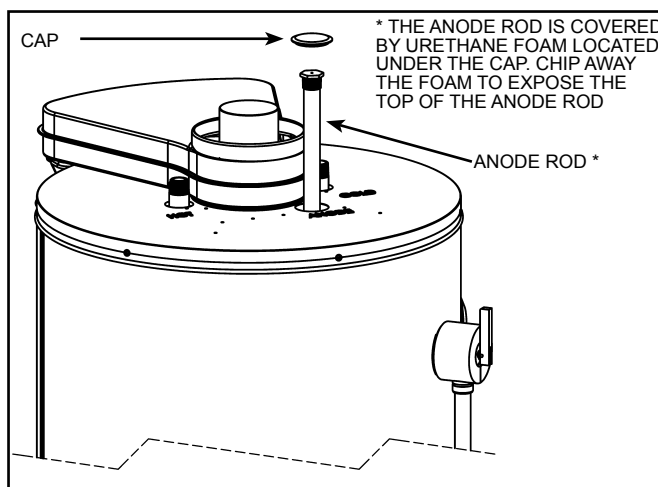
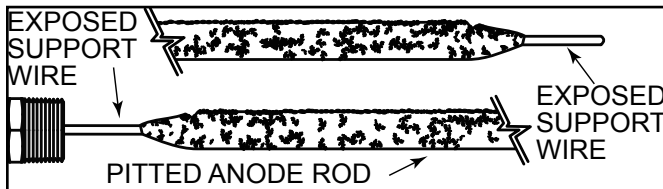

Figure 42
Figure 43
Artificially softened water is exceedingly corrosive because the process substitutes sodium ions for magnesium and calcium ions. The use of a water softener may decrease the life of the water heater tank. The anode rod (see Figure 42) should be inspected after a maximum of three years and annually thereafter until the condition of the anode rod dictates its replacement (see Figure 43).
5. Remove and retain the anode cap on top of the heater and remove and retain just enough insulation so you can access to the anode head (see Figure 42). Keep in a safe place for reinstallation later.
6. Remove the anode rod by using a ratchet and a 1-1/16" socket turning counter-clockwise (see Figure 42).
2. Place the anode rod in the spud (top of the tank) (see Figure 42) and turn clockwise until the threads are hand tight. Using a ratchet and 1-1/16" socket tighten down water tight.